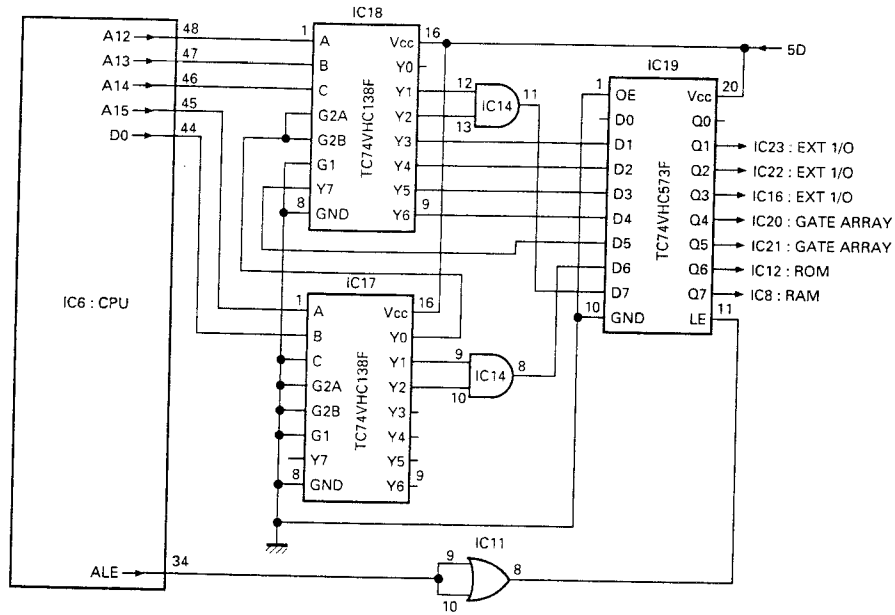

Fig. 12 Address control circuit
The main CPU operates in the microprocessor mode in which the external ROM is used. The memory is configured as shown in the memory map, and the main CPU A12 to A15 and D0 signals and IC14, IC17, IC18, and IC19 are used to generate a chip select (CS) signal to select and access an IC. (Figure 12)